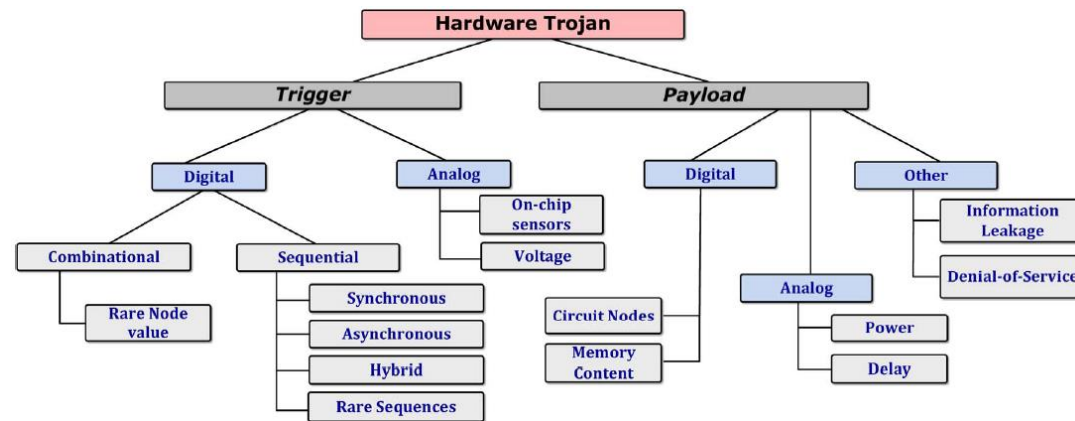

Figure 1 Trojan taxonomy based on trigger and payload mechanisms.
The taxonomy of Trojan circuits has been presented in various forms, and it continues to evolve as newer attacks and Trojan types are discovered. Figure 1 shows a high-level classification based on variations in activation mechanism and Trojan effect.
- 5) What classification does your Trojan belong to? Refer to Figure 1 to answer this question.